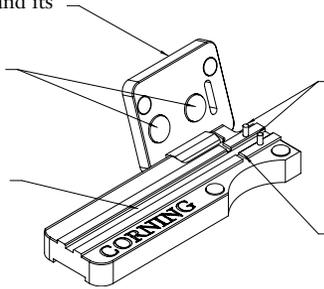

Figure 3
**4.4** Inspect the following areas of the fiber handlers prior to use (Figures 3 and 4) :